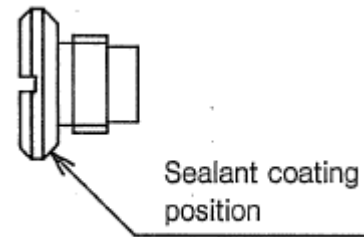
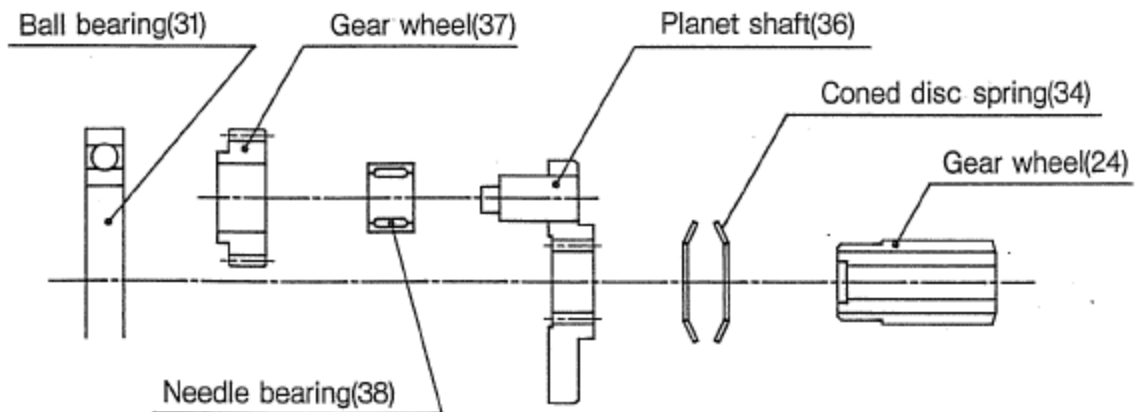

Fig.12
Fig.13
- (1) For lubrication volume and types of grease, see Chapter IX "1. Lubrication".
- (2) Lubricate Needle bearings(20),(27),(38) and Ball bearings(29),(31) with grease individually when assembling.
- (3) Press Bushing(18) and install Gear wheels(19) to Planet shaft(17), and install them into Casing (6).
- (4) Install Internal gear(22) and O-ring(23), and lubricate the gear portion with grease.
- (5) Press Bushing(18) into Gear wheel(24), then install them into Planet shaft (17).
- (6) Fix Gear wheels(26) and Ball bearing(29) to Planet shaft(25), and install them onto Planet shaft(17).
- (7) Install Internal gear(30), and lubricate the gear portion with grease. Install Ball bearing(31).
- (8) Degrease Lock screw(33) and the setting position on Gear housing(32) using solvent. Apply sealant to the bearing surface of Lock screw(33) and tighten it with a torque of $20 \sim 25 \text{ N} \cdot \text{m}$ $\{2.0 \sim 2.5 \text{ kgf} \cdot \text{m}\}$. (See Fig. 12) Use Loctite 510 or equivalents as sealant.
- (9) Attach Gear housing(32) from above.
- (10) Install Internal gear(35), Gear wheel(24), Coned disc springs(34), Planet shaft(36), Gear wheels(37) and Ball bearing(31) in this order. See Fig. 13 for the setting direction of Coned disc springs(34) and Gear wheels(37).